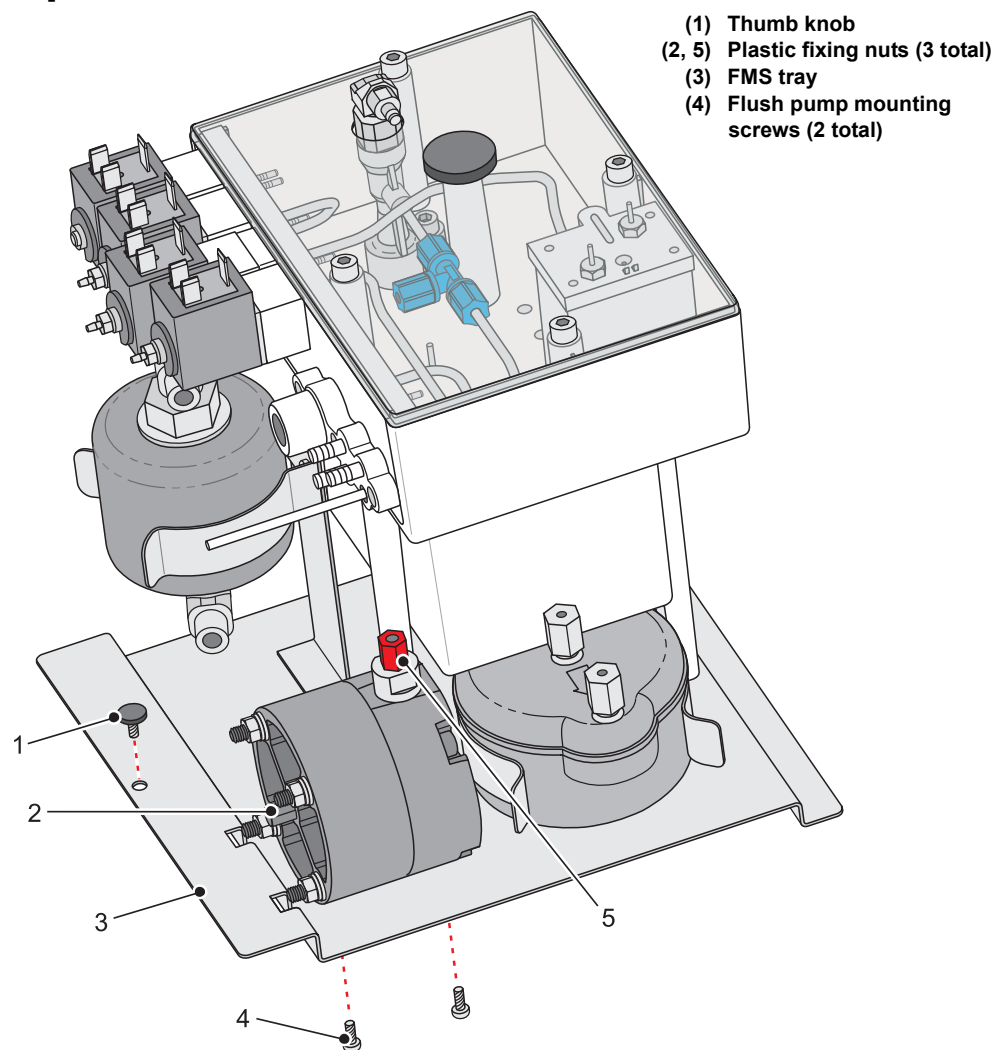

Figure 8-16. Flush Pump Removal
- 1 Remove and retain the thumb knob (Item 1 in Figure 8-16).
- 2 Lift the FMS tray (3) forwards out of the ink compartment.
- 3 The flush pump is secured by two mounting screws (4) accessed from underneath the FMS tray. Remove and retain the two screws.
- 1 Remove the electrical connectors from the spade connector terminals (Item 1 in Figure 8-16) from the coil of the valve.
- 2 Remove the tube (4) from the barb (3) if present (valves V3, V7 and V8).
- 3 Remove the circlip (2) and slide the solenoid windings (5) off the valve block (6) (note the orientation of the solenoid).
- 4 Remove and retain the two screws (7) securing the valve block to the manifold.
- 5 Remove the valve block, complete with O-ring assembly. Retain the O-ring assembly (8).